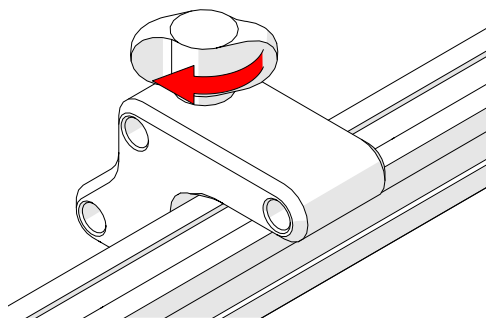

Fig. 45 - Chain mount alignment
2. Secure the double chain mount to the frame bar by tightening the black wing knob. (Fig. 45).